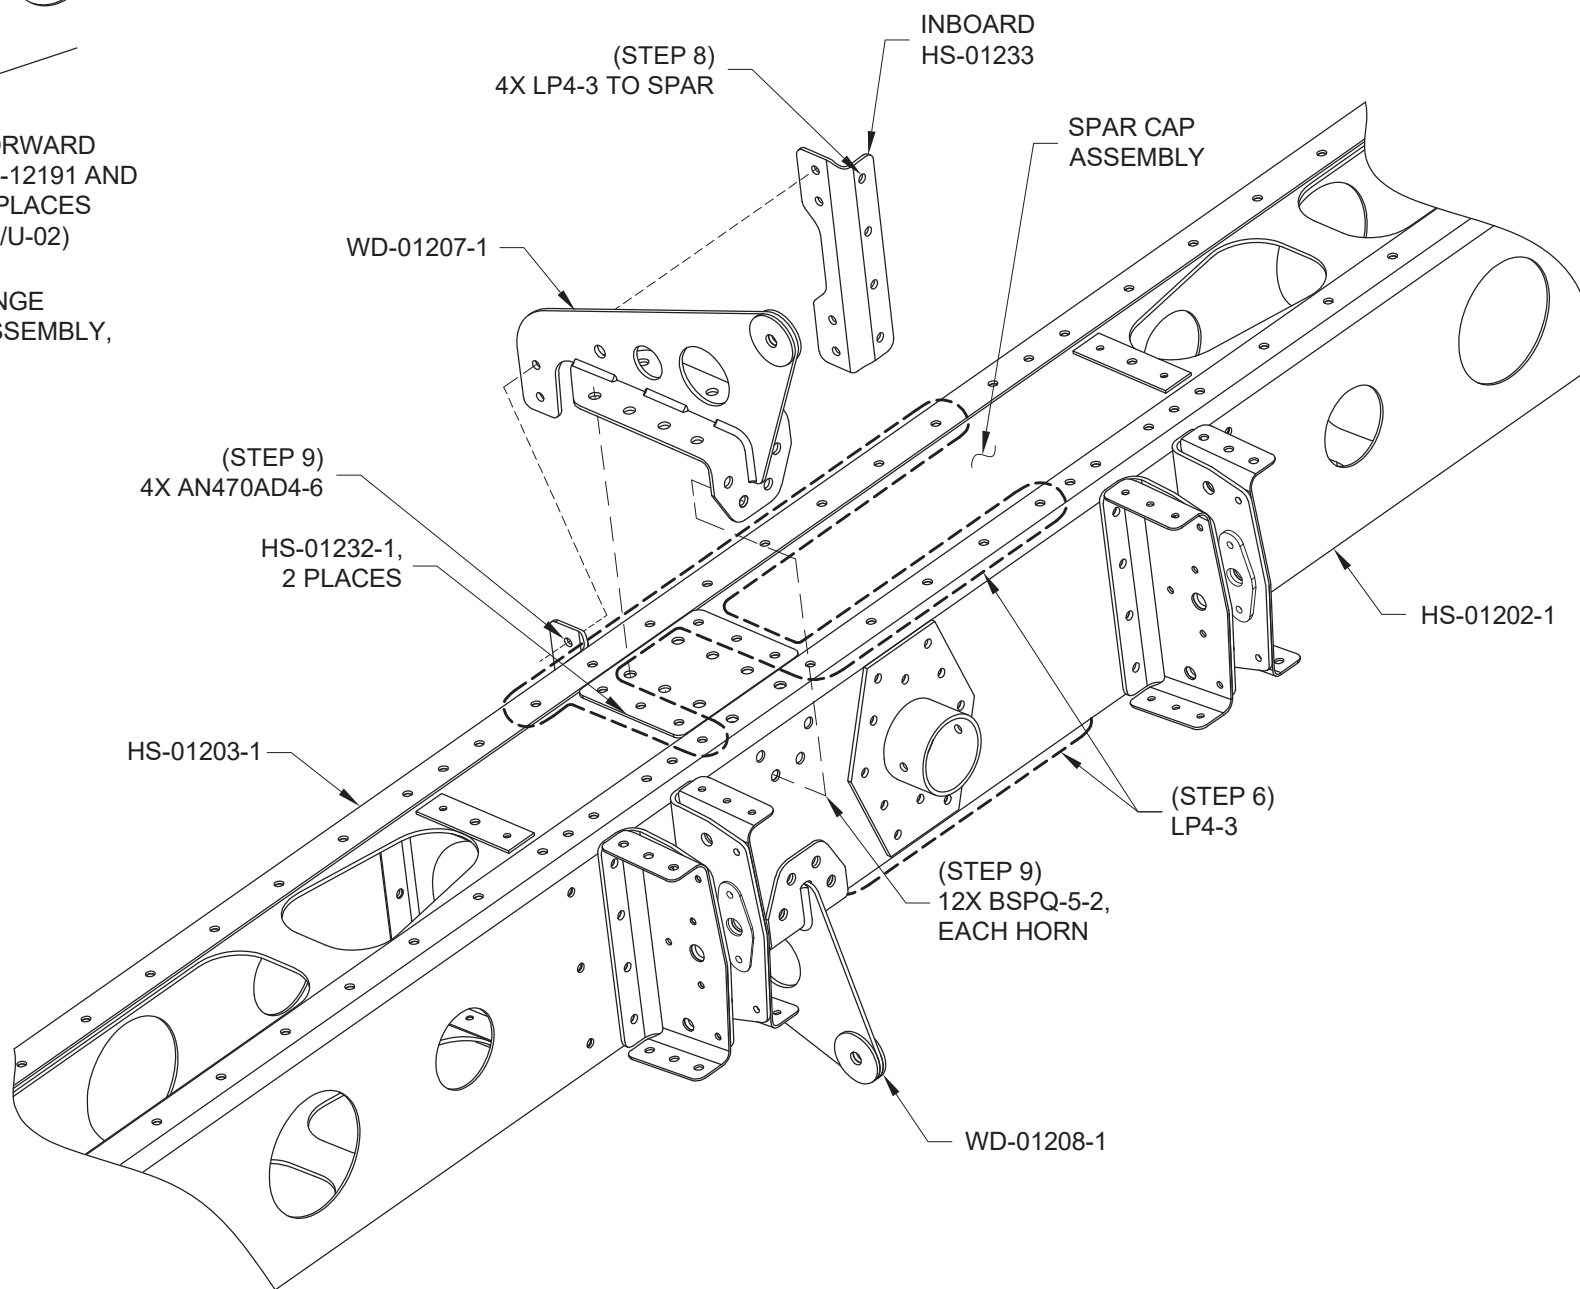

FIGURE 3:
Step 6: Rivet only the area shown in Figure 3 on the top and bottom of the Spar Box Assembly.
Step 7: Cleco the WD-01207-1 Upper Horn, WD-01208-1 Lower Horn and inboard HS-01233 Horn Attach Angle to the Spar Box Assembly as shown in Figure 3.
Step 9: Rivet the horns to the Spar Box Assembly and horn attach angles with the rivets called out in Figure 3.